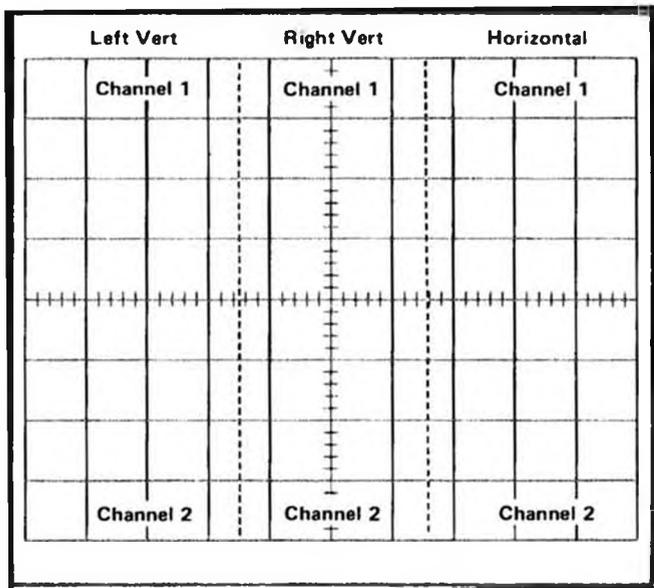
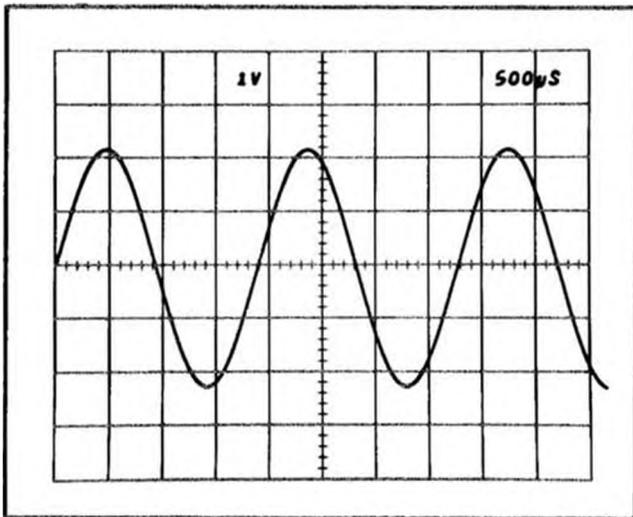

Fig. 3-24. Location of readout words on the CRT identifying the originating plug-in unit and channel (one complete frame shown, simulated readout).
Fig. 3-26. Typical readout display where only channel 1 of the Right Vertical and Horizontal unit is displayed.
**Frame**—A frame is a display of words for a given operating mode and plug-in combination. Up to six words can be displayed in one frame. Fig. 3-24 shows one complete frame (simulated readout) and the position at which each of the six words is displayed.
**Display Format.** Up to six words of readout information can be displayed on the CRT. The position of each word is fixed and is directly related to the plug-in unit from which it originated. Fig. 3-24 shows the area of the graticule where the readout from each plug-in unit is displayed. Notice that channel 1 of each plug-in unit is displayed within the top division of the CRT and channel 2 is displayed directly below within the bottom division. Fig. 3-26 shows a typical display.
The Character Generator stage produces the characters which are displayed on the CRT. Any of the 50 characters shown on the Character Selection Matrix of Fig. 3-24 can be addressed by proper selection of the column and row current. Only one character is addressable in any one time-slot; a space can be added into the displayed word by the Decimal Point Logic and Character Position Counter stage when encoded by the plug-in. The latter stage counts how many characters have been generated and produces an output current to step the display one character position to the right for each character. In addition, the character position is advanced once during each of time-slots 1, 2, and 3 whether a character is generated during these time-slots or not. This action fixes the starting point of the standard-format display such that the first digit of the scaling factor always starts at the same point within each word regardless of the information encoded in time-slot 2 (normal/invert) or time-slot 3 (cal/uncal) which precedes this digit. Also, by encoding row 10 and column 0 during any time-slot, a blank space can be added to the display. Decimal points can be added to the display at any time by addressing row 7 and columns 3 through 7 (see Character Selection Matrix for location of these decimal points). The Decimal Point Logic and Character Position Counter stage is reset after each word by the Word Trigger pulse.
The Format Generator stage provides the output signals to the vertical and horizontal deflection systems of the instrument to produce the character display. The binary Channel Address No. 2 code from the Channel Counter stage is connected to this stage so that the display from each channel is positioned to the area of the CRT which is associated with the plug-in and channel originating the word (see Fig. 3-24). The positioning current or decimal point location current generated by the Decimal Point Logic and Character Position Counter stage is added to the horizontal (X) signal at the input to the Format Generator stage to provide horizontal positioning of the characters within each word. The X- and Y-output signals are connected to the Horizontal Amplifier and Vertical Amplifier through the Horizontal Output and Vertical Output stages respectively.